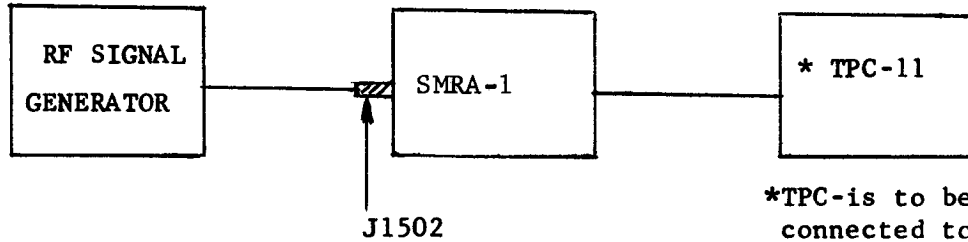

FIGURE 1.
- a. Disconnect coax lead from SMRA-1 J-1502 and connect test set up as shown in Figure 1.